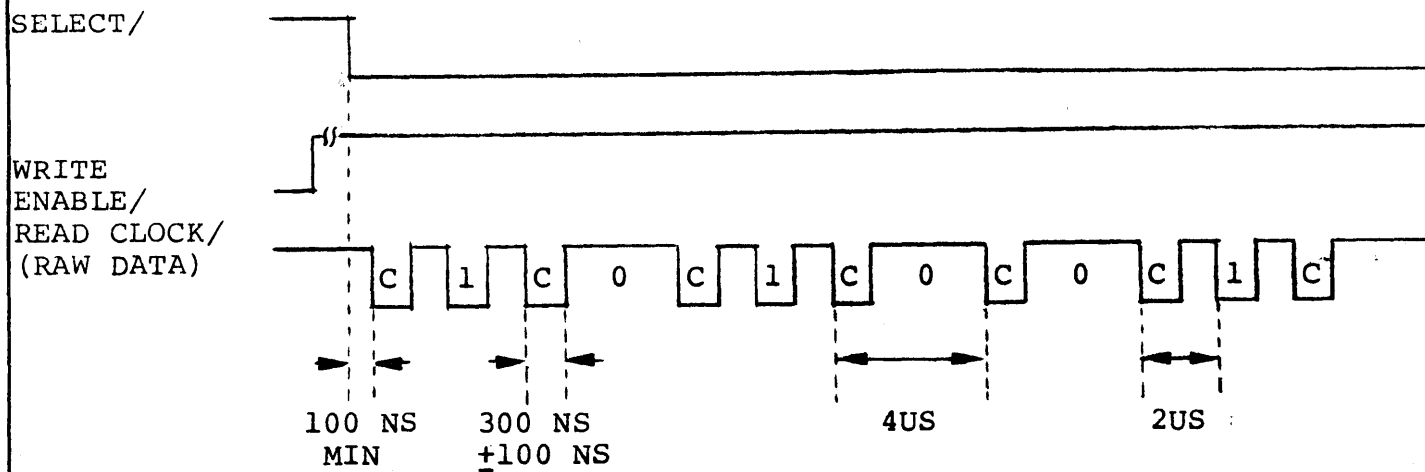

FIGURE 7, RAW DATA TIMING
A feature of the Century Data Model 140 Floppy Disk Drive is its universal read circuits. While the expected recording method is double frequency (FM), a systems designer may specify no data separator with the drive and use the READ CLOCK output which would represent unseparated data and clocks to enable the use of another recording method which may be either more efficient or result in a higher throughput (see Figure 7).
For clarity, each of the read data outputs will be depicted along with appropriate timing details (see Figures 7, 8 & 9).